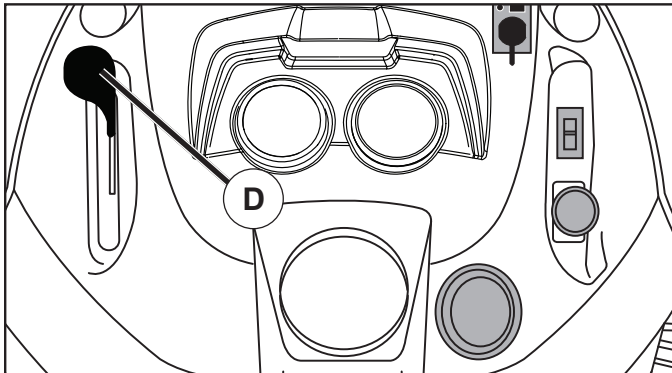

Fig. 7
## TO USE THROTTLE CONTROL (D) (See Fig. 7)